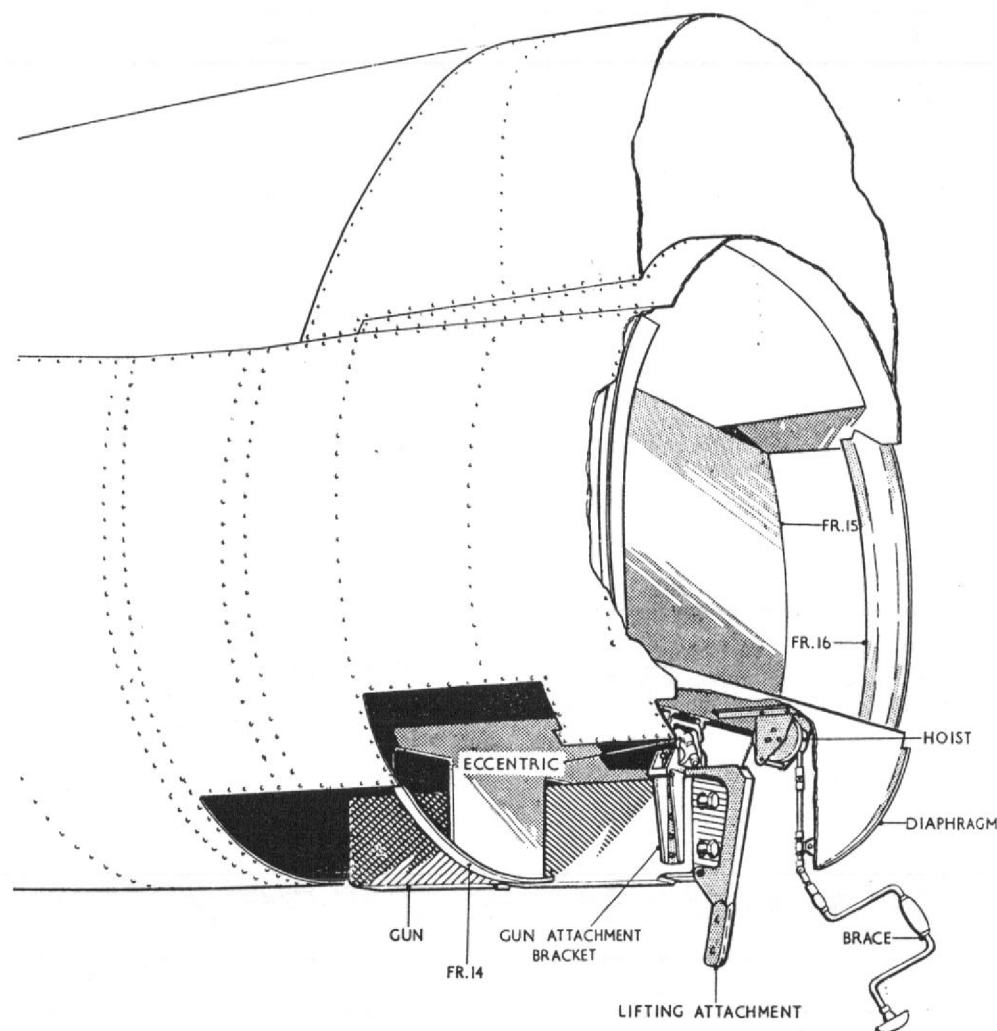

Fig.7 Gun removal (1)
26. When hoisting the gun, the hoist is attached to the aircraft by two pip-pins into the tee-sectioned floor members forward of the diaphragm aft of frame 15. The hoist is operated by first attaching an extension for the hand brace (item 9) into the appropriate position on the winding drum, and then fitting the hand brace to the end of the extension. The gun lifting attachment (item 10) is fitted to the lifting attachment lug on the rear of the gun (fig.7). The cable from the drum is then attached to the top of the lifting attachment.